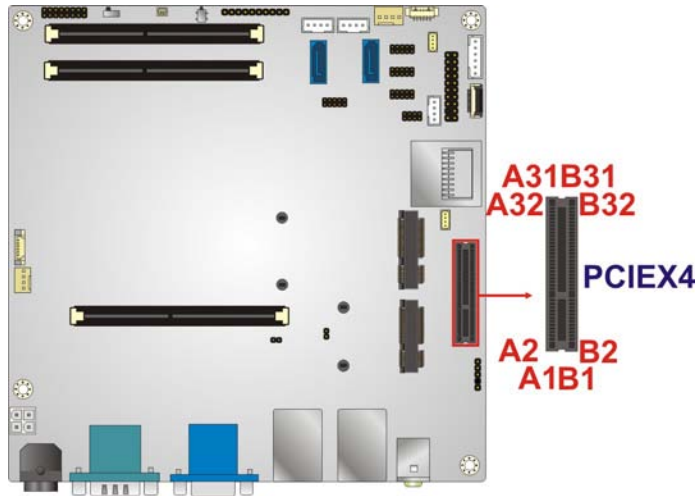

Figure 3-14: PCIe x4 Slot Location
- CN Location: See **Figure 3-14**